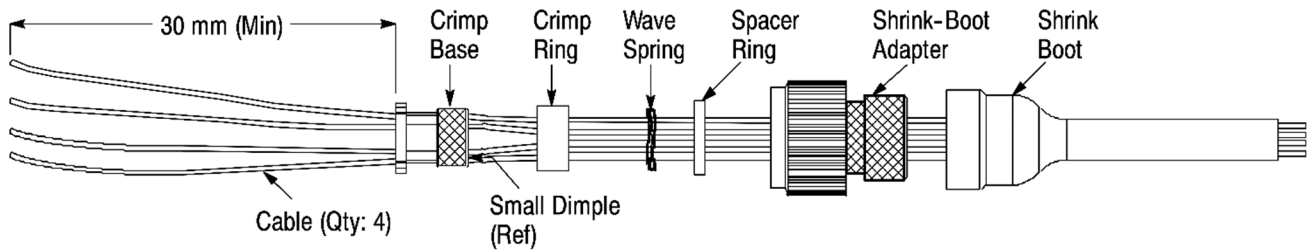

Figure 2
1. Slide the first 5 components shown in Figure 2 onto the 4 cables. Make sure to orient each component as shown. Then insert each cable into a separate hole in the knurled end of the crimp base. Allow at least 30 mm at the end of the cables for stripping.